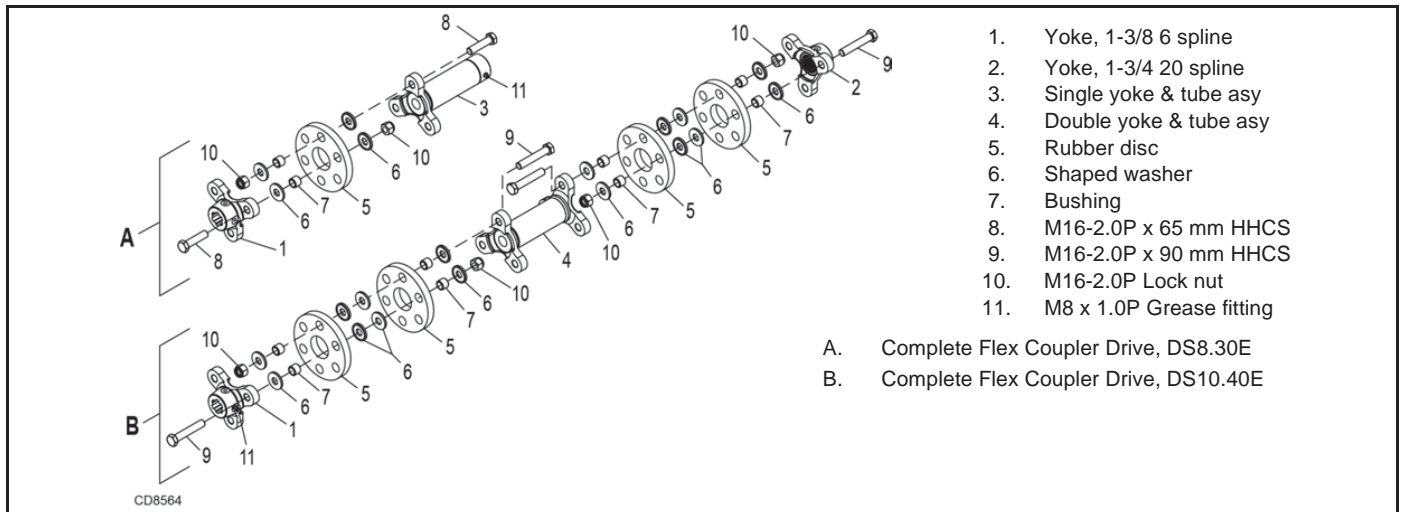

Figure 15. Flexible Coupler
To replace the disks, remove hardware items (6, 7, 8 or 9 and 10). Remove sleeves (7) from old disk and install in new disk. Reassemble and torque bolts to 115 N-m (85 lbs-ft). See Figure 15. Take special care not to rotate gearbox shaft and throw blades out of time. If rubber disks have failed and blades are hitting, you will need to re-time the blades per instructions on page 26.